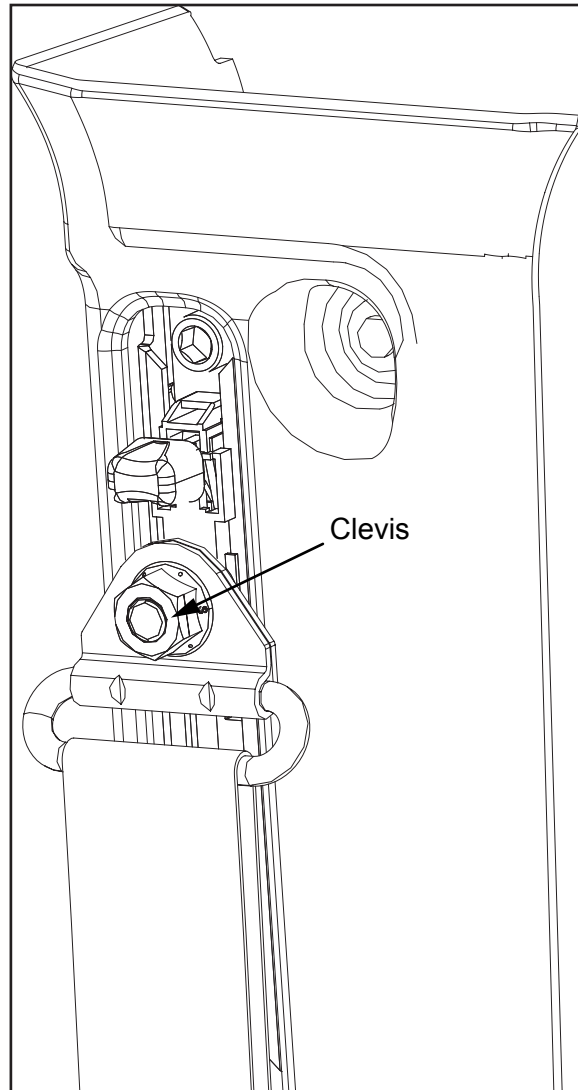

Figure 15
16. Install the clevis and tighten to 48 Lbs-Ft of torque. Repeat step 16 for the opposite side (see Figure 15).